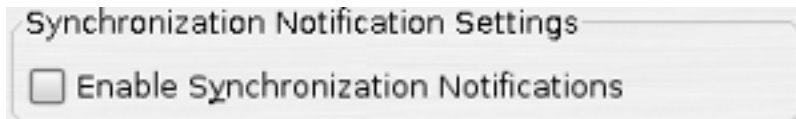

Figure 11.10. Synchronization Notification Settings
2. Under the Synchronization Notification Settings to disable synchronization notifications make sure the checkbox labeled "Enabled Synchronization Notifications" is NOT checked see Figure 11.10, "Synchronization Notification Settings".